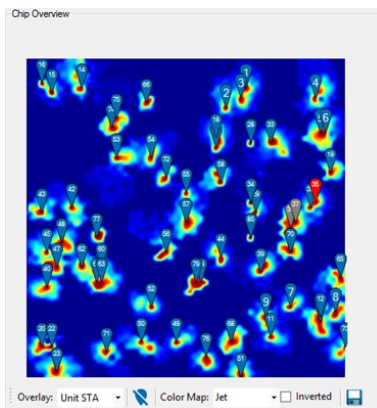

Figure 16: Chip Overview with markers
- **Unit STA:** The Unit STA measure is shown in a heat map. It shows a score for the relative contribution of each sensor to the detected units. See section „**Unit STA Measure**“ on page 90 for details on this measure and Figure 16 for an example.